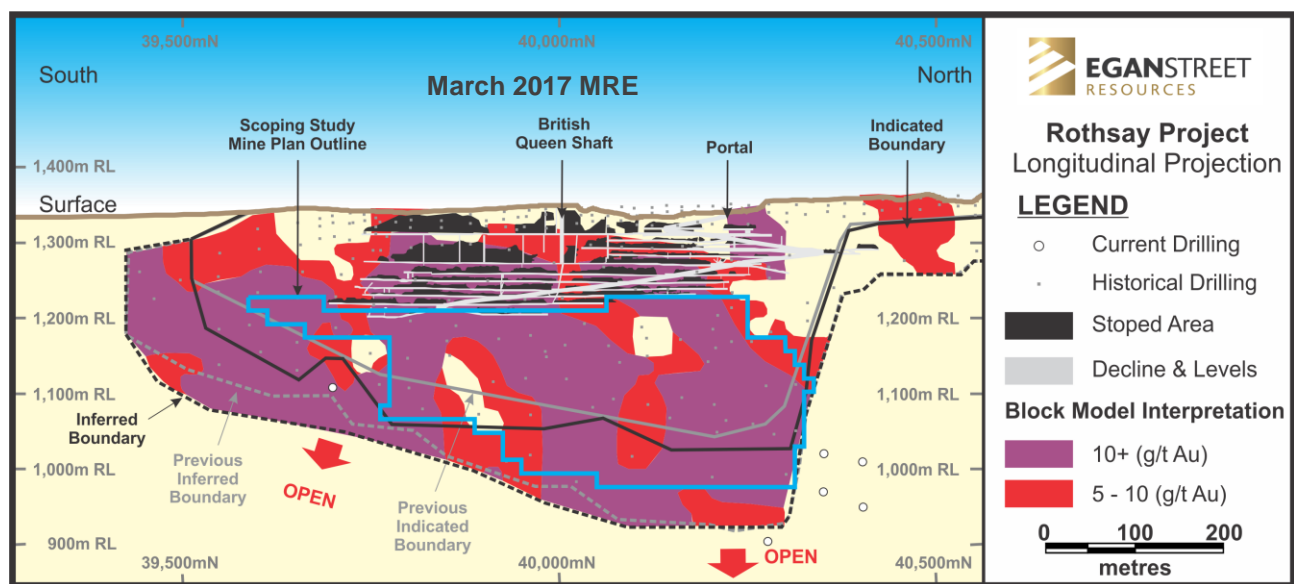

FIGURE 2 – "A" SHEAR LONG PROJECTION SHOWING PREVIOUS AND UPDATED MRE BOUNDARIES AND BLOCK MODEL INTERPRETATION.
- > Significant extensions of +10g/t block model interpretation evident to the south (Figure 2), which will be used in an updated Scoping Study that is expected to deliver a larger mining inventory and improved project value.
The revised Mineral Resource incorporates significant extensions of the high-grade +10g/t block model interpretation, particularly to the south of the previous Indicated resource boundary where the grade and width of the deposit appears to increase (see Figure 2 below).
This is an encouraging result which clearly demonstrates the significant upside to the deposit and supports the Company's strategy to target the area below the historical workings as the focus for its redevelopment strategy, as shown in Figure 2.